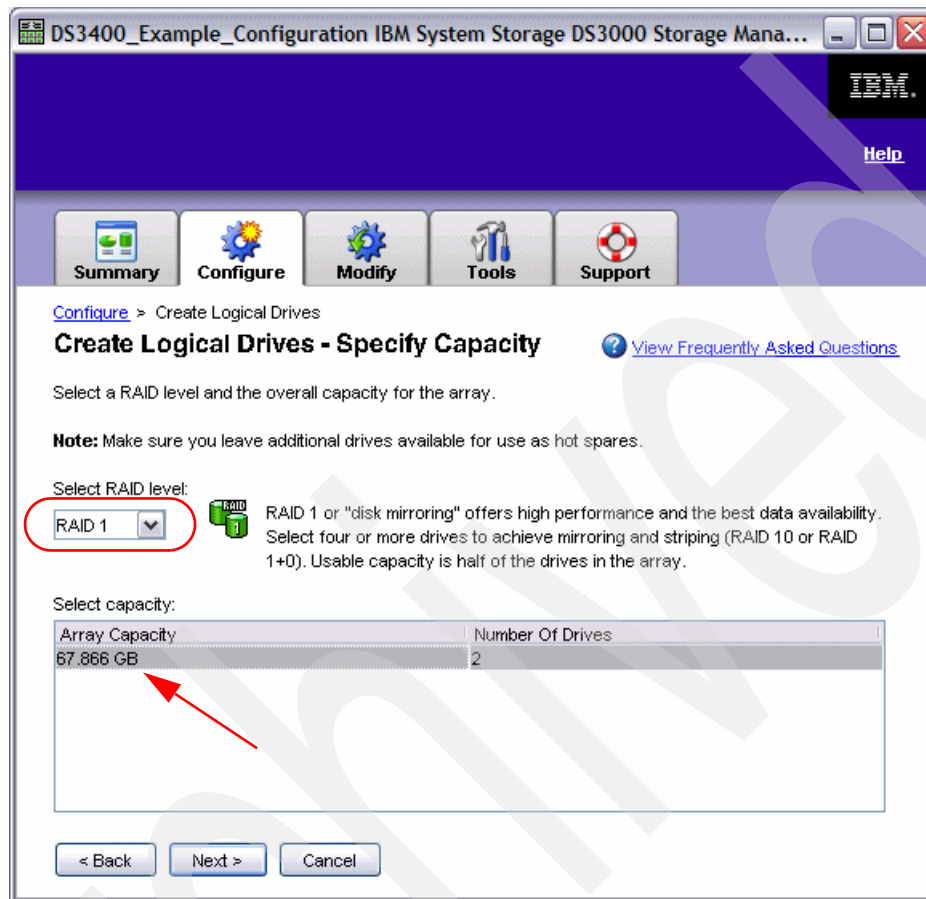

Figure 26-15 Specify Capacity
5. In the Specify Capacity window, we specify the RAID level and then select one of the presented capacity options. We have two unassigned 68 GB disk drives installed and we want to create a RAID 1 array. So we need to select RAID level 1; at this point, the window displays an entry showing two drives (Figure 26-15). Highlight this line and click **Next**.